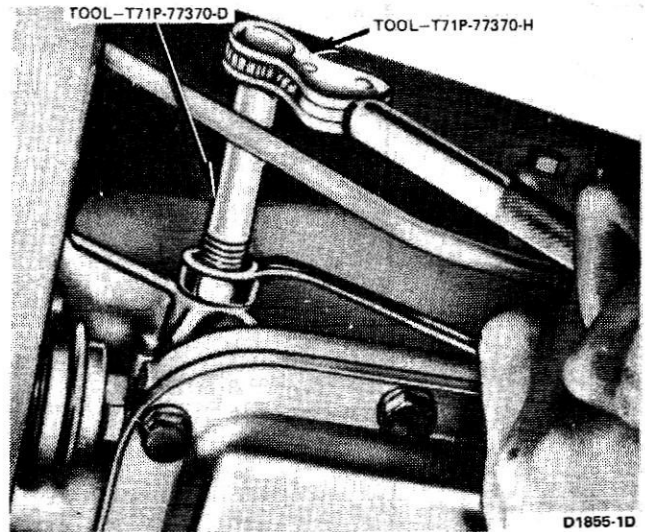

FIG. 6 Adjusting Low-Reverse Band
2. Install a new locknut on the adjusting screw with the tools shown in Fig. 6. Tighten the adjusting screw until the tool handle clicks. The tool is a pre set torque wrench which clicks and breaks when the torque on the adjusting screw reaches 10 ft-lb.